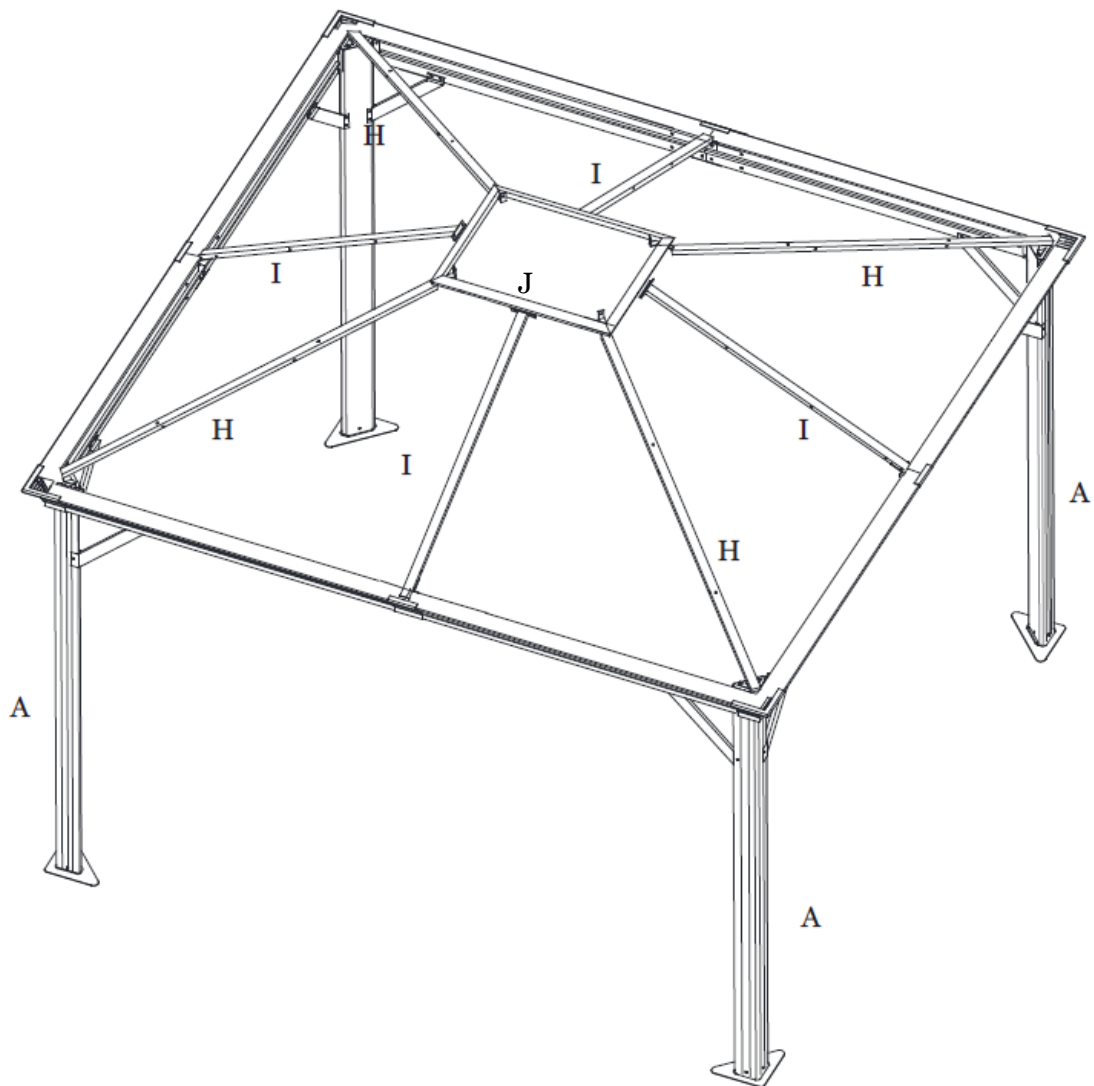

Figure 6-4
Step 6D: Repeat for all sides. **Tighten all Bolts.** See Figure 6-4.